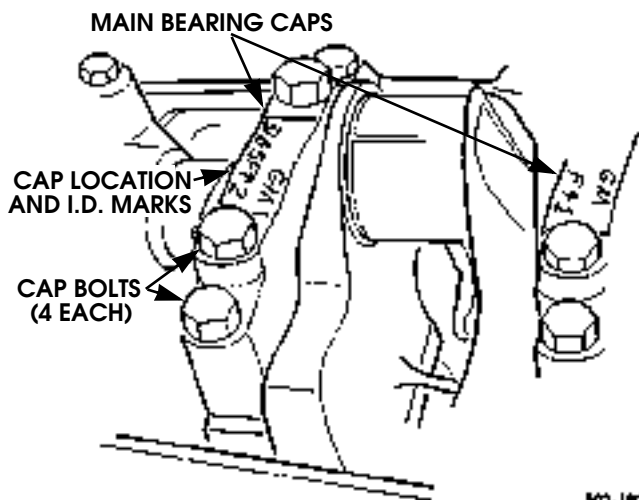

Figure 2-98: Main Bearing Cap I.D. Marks
1. Inspect main bearing caps. Note if caps have factory I.D. markings on them. However, if caps do not have factory marks, it will be necessary to mark each cap with a center punch, or scriber. Main caps must be reinstalled in same location and direction, to maintain bore alignment for crankshaft journals (Figure 2-98).